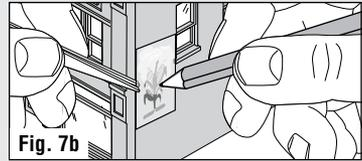

Fig. 7b
- Position in desired location and rub over entire Decal area with burnisher or dull pencil. (Fig. 7b)